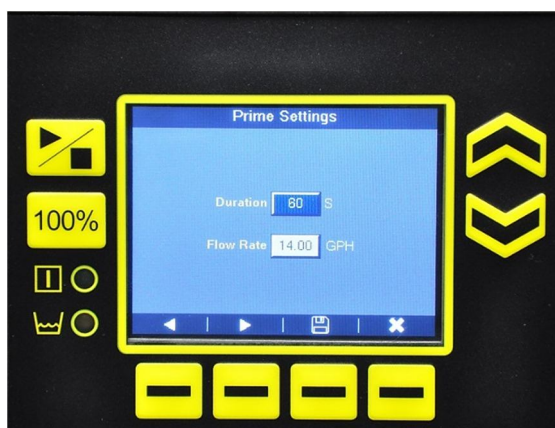

Figure 24: Prime Settings
1. From the *Settings* screen, select **Prime Settings** (Figure 24).